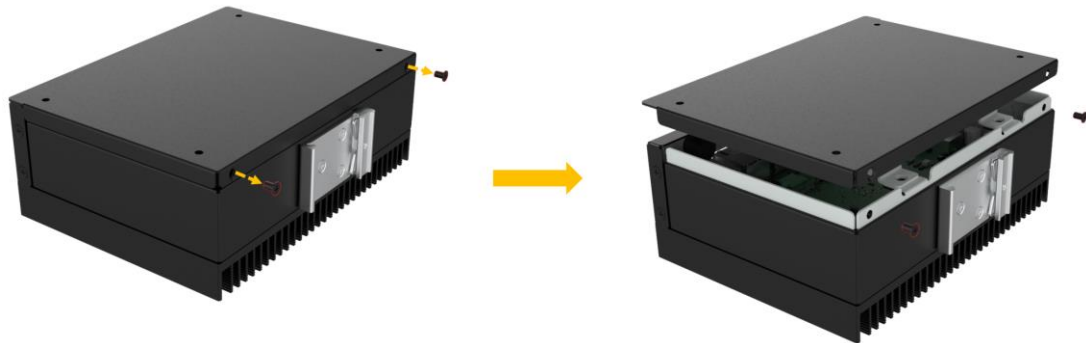

Figure 3-1: Remove the Cover
Step 2: Take off the cover (**Figure 3-1**).